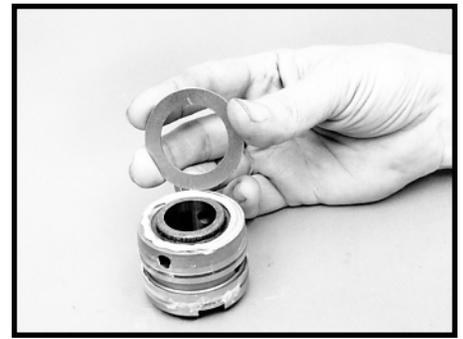

Figure 129
25. When the 10 minute compression time has elapsed, remove the compression tool J26742 from the valve sleeve (14). Apply more grease to the valve sleeve seals, and grease the thrust washer face on the end of the valve sleeve without the drive slots. Place the other thrust washer (10) onto the valve sleeve end without the drive slots. SEE FIGURE 129.